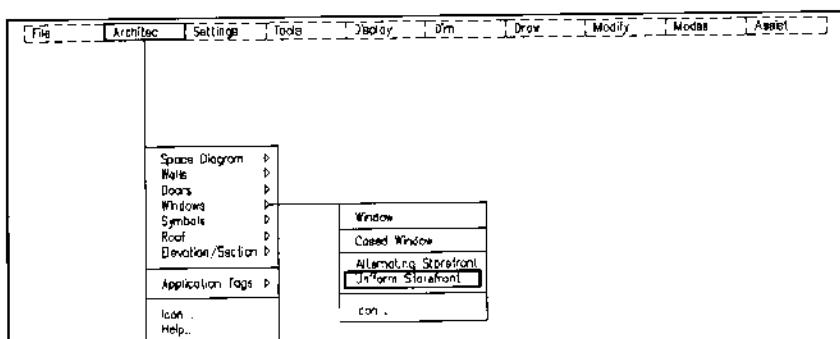

Figure 30.
7. Select the Uniform storefront command from the Architec Windows pull-down menu as shown in Figure 30. You will draw a storefront with eight windows.